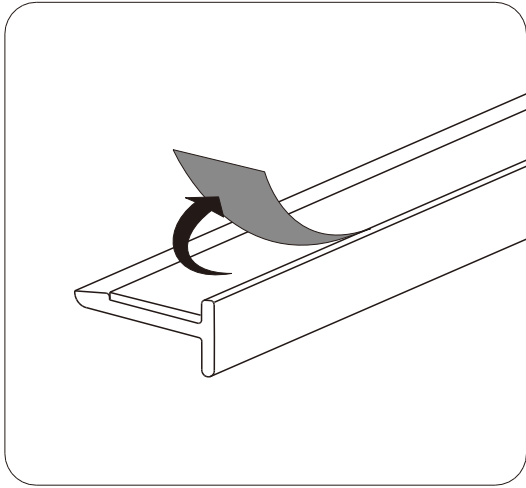
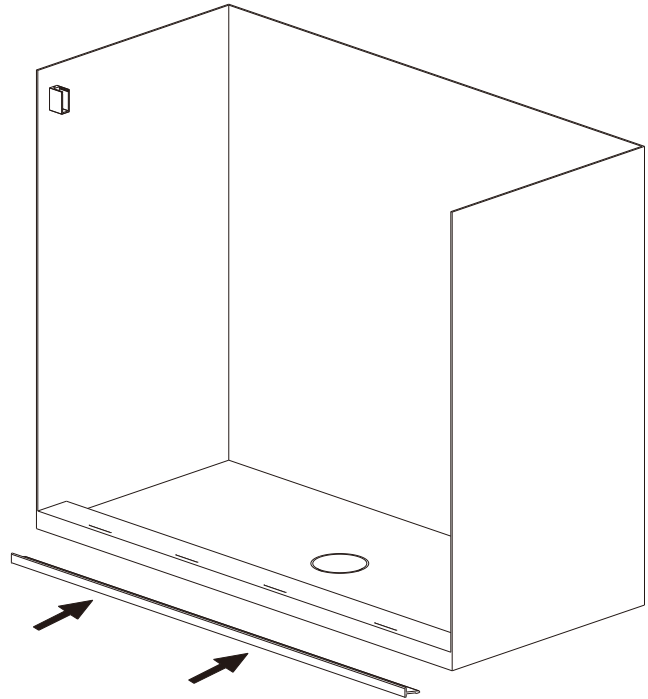

Fig 7
Fig 8
1. Tear off the tape from the **Bottom Rail [03]** (Fig 7). Place the **Bottom Rail [03]** onto the **marked position** on the threshold (Fig 8).